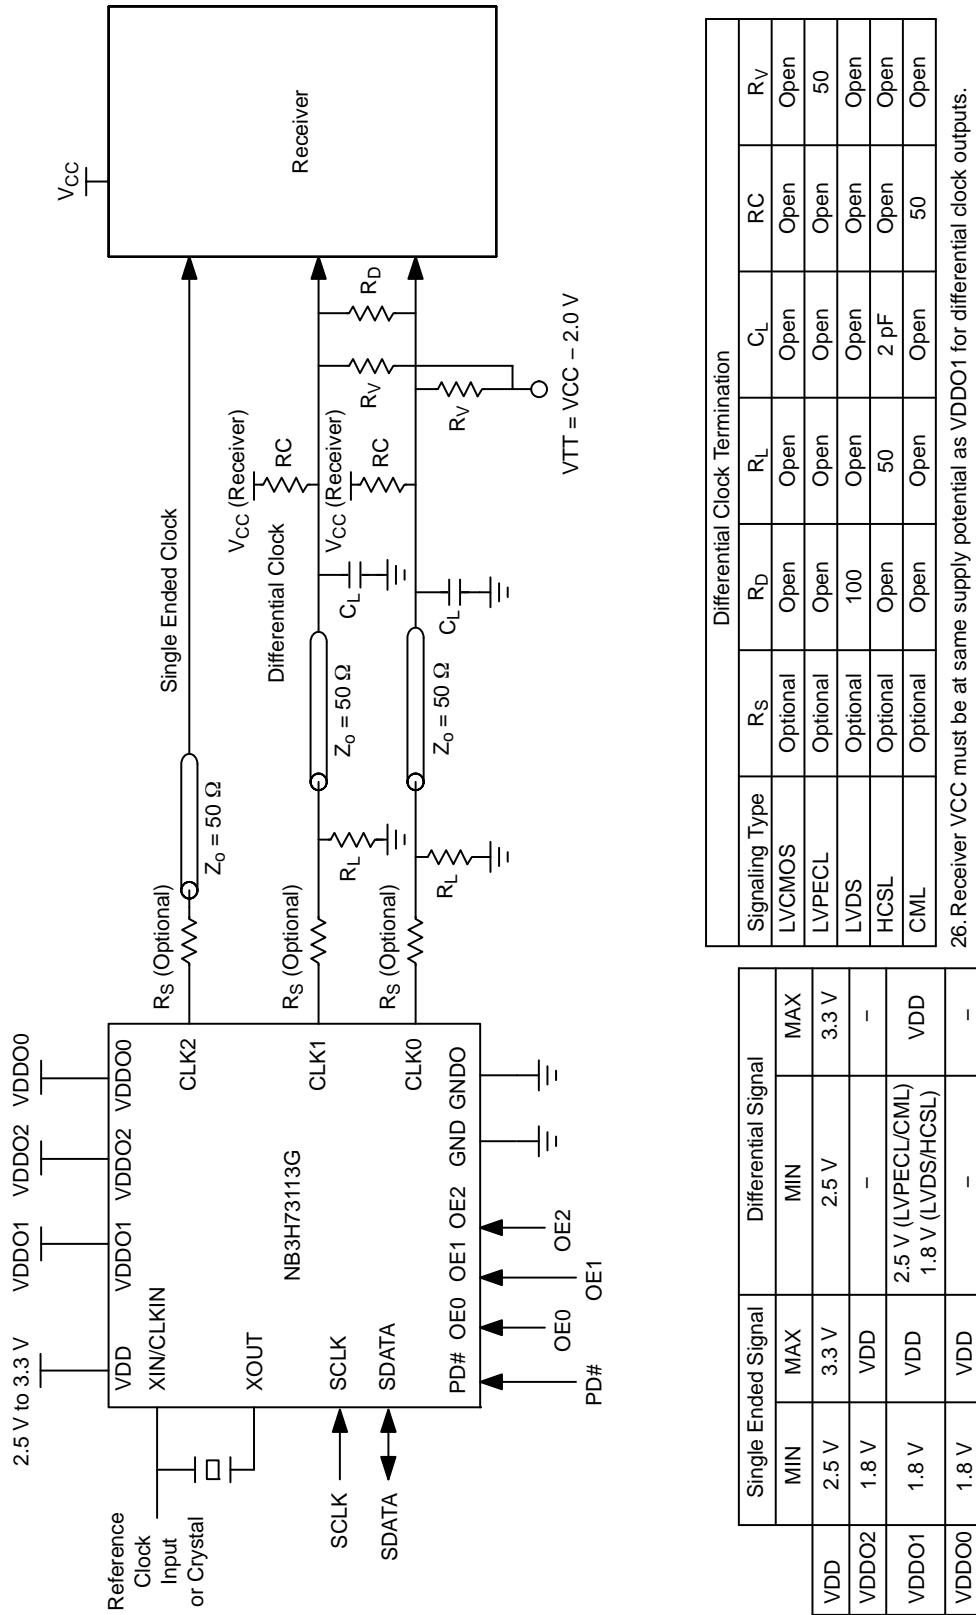

Figure 6. Typical Termination for Single Ended and Differential Signaling Device Load
7. Measurement taken with single ended clock outputs terminated with test load capacitance of 5 pF and 15 pF and differential clock terminated with test load of 2 pF. See Figures 6, 7 and 12. Specifications for LVTTTL are valid for V_{DD} and V_{DDO} 3.3 V only.
20. Measurement taken from single ended clock terminated with test load capacitance of 5 pF and 15 pF and differential clock terminated with test load of 2 pF. See Figures 6, 7 and 12.